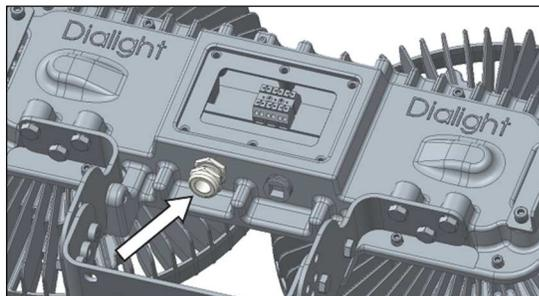

Fig.6
2. Install a cord grip to suit the gauge source wiring being used [Fig.6]